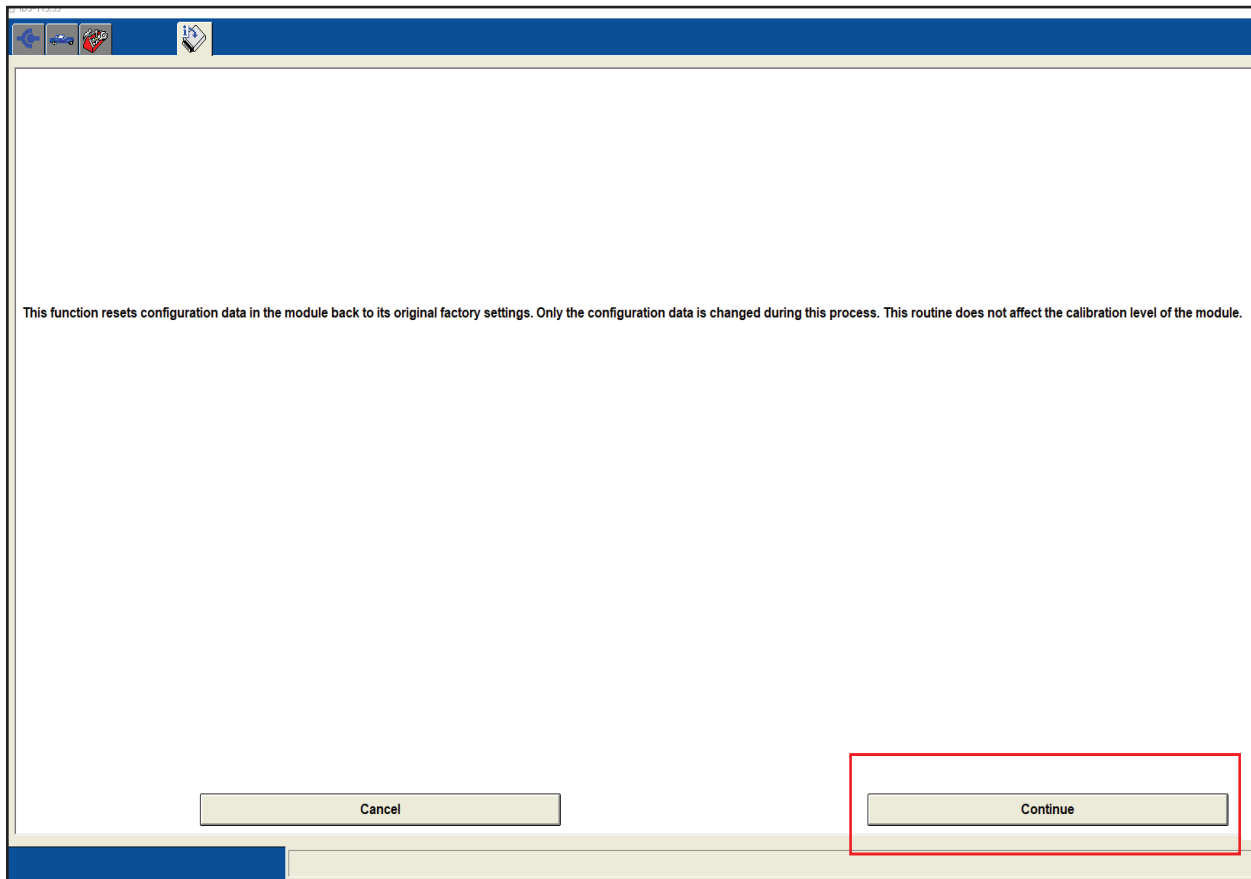

FIGURE 1B
- When prompted: This function resets configuration data in the module back to its factory settings. Only the configuration data is changed during this process. This routine does not affect the calibration level of the module. Select Continue. See Figure 1B.